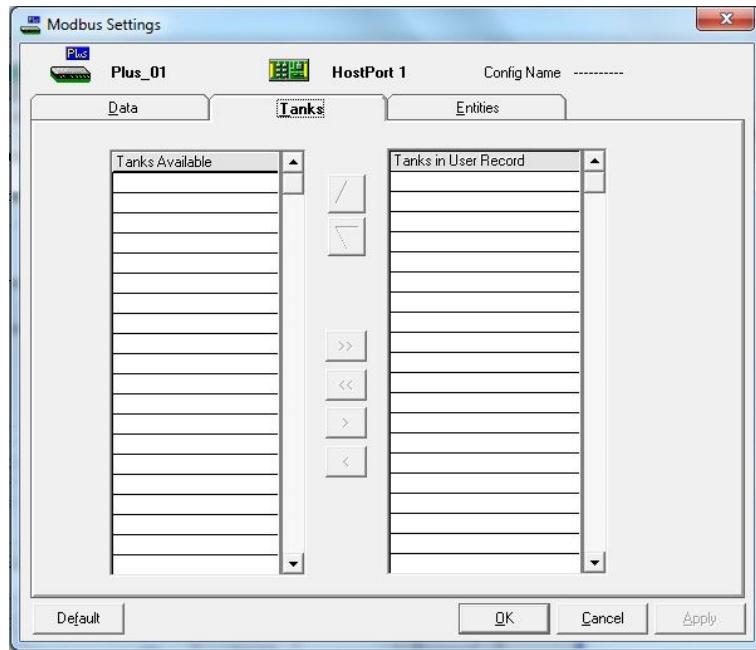

FIGURE 2-9
8. Go to the **Tanks** tab (See FIGURE 2-9). You can arrange the order of tanks using the arrow options. The order can be decided based on the priority on which you want to view the tank details.